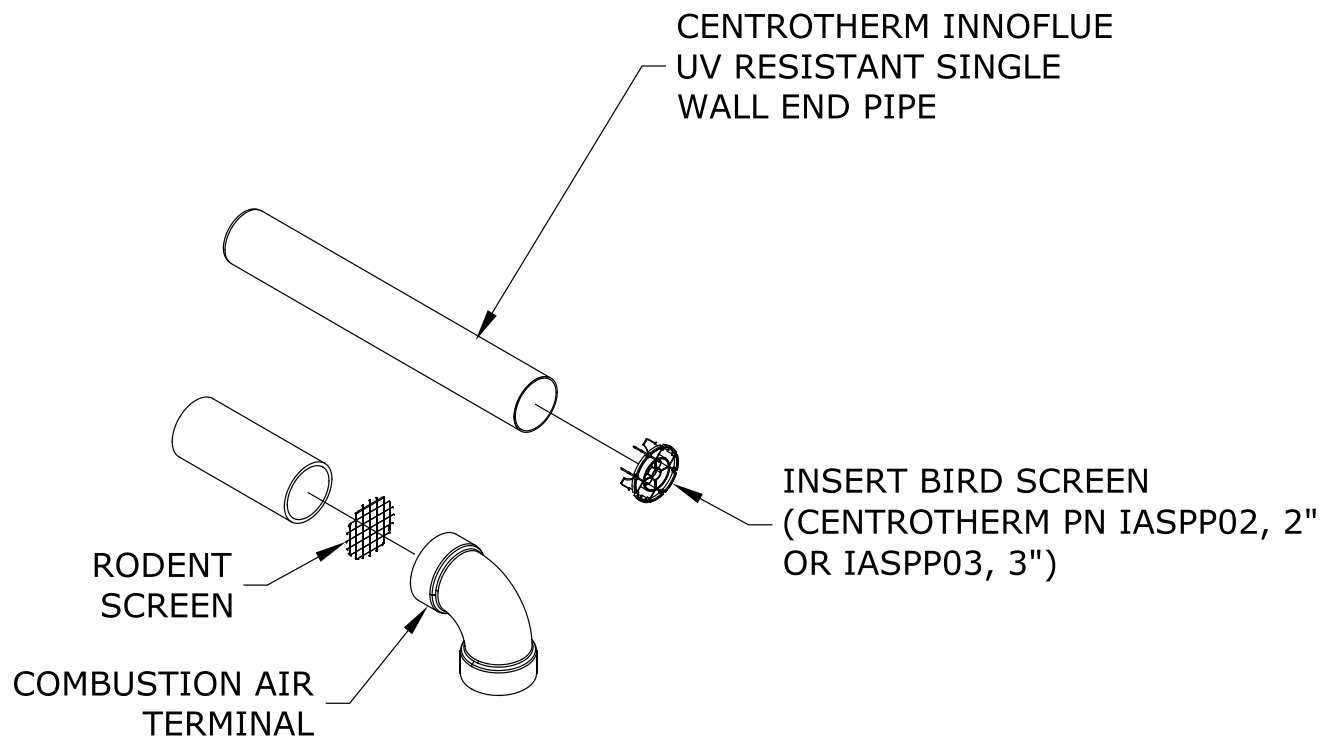

Figure 7.45: Installation of Centrotherm InnoFlue UV Stabilized Single Wall Horizontal Terminal
- a. See Figure 7.45 for proper orientation of twin pipe horizontal terminals. Outer edge of end pipe must be 10" or less from the wall surface. (Figure 7.5)